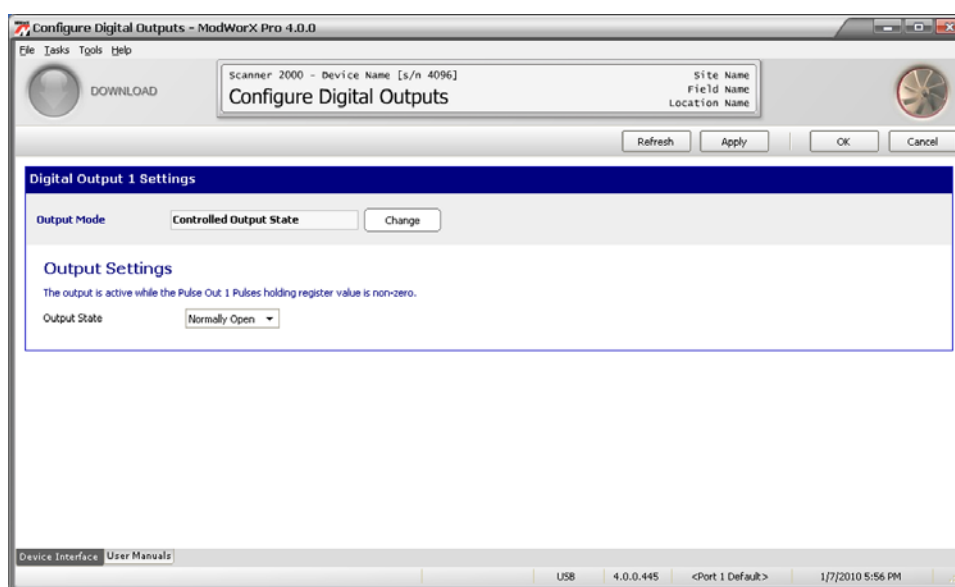

Figure 7.19
2. Click **OK** to save the setting and return to the Configure Digital Outputs screen (Figure 7.19).